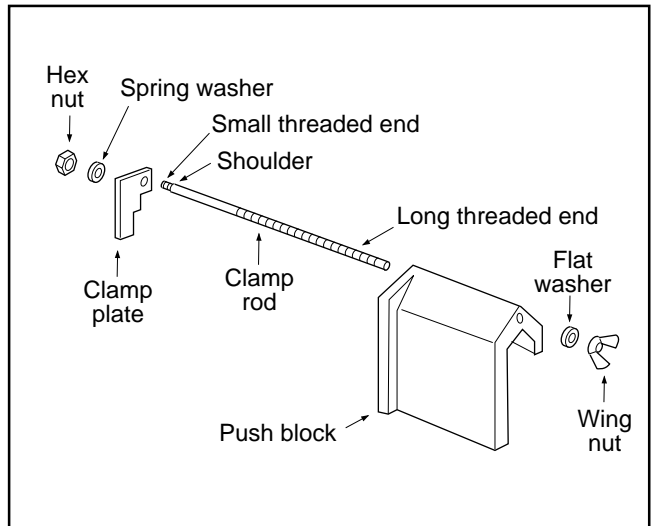

Fig. L.1
2. Screw the smaller threaded end of the **Clamp Rod** into threaded hole in **Clamp Plate** until the plate bottoms on its shoulder (make sure clamp is oriented such that letter 'C' is facing outwards as shown in fig. L.1) and tightly secure **Clamp Plate** to **Clamp Rod** with a 11mm AF spanner.